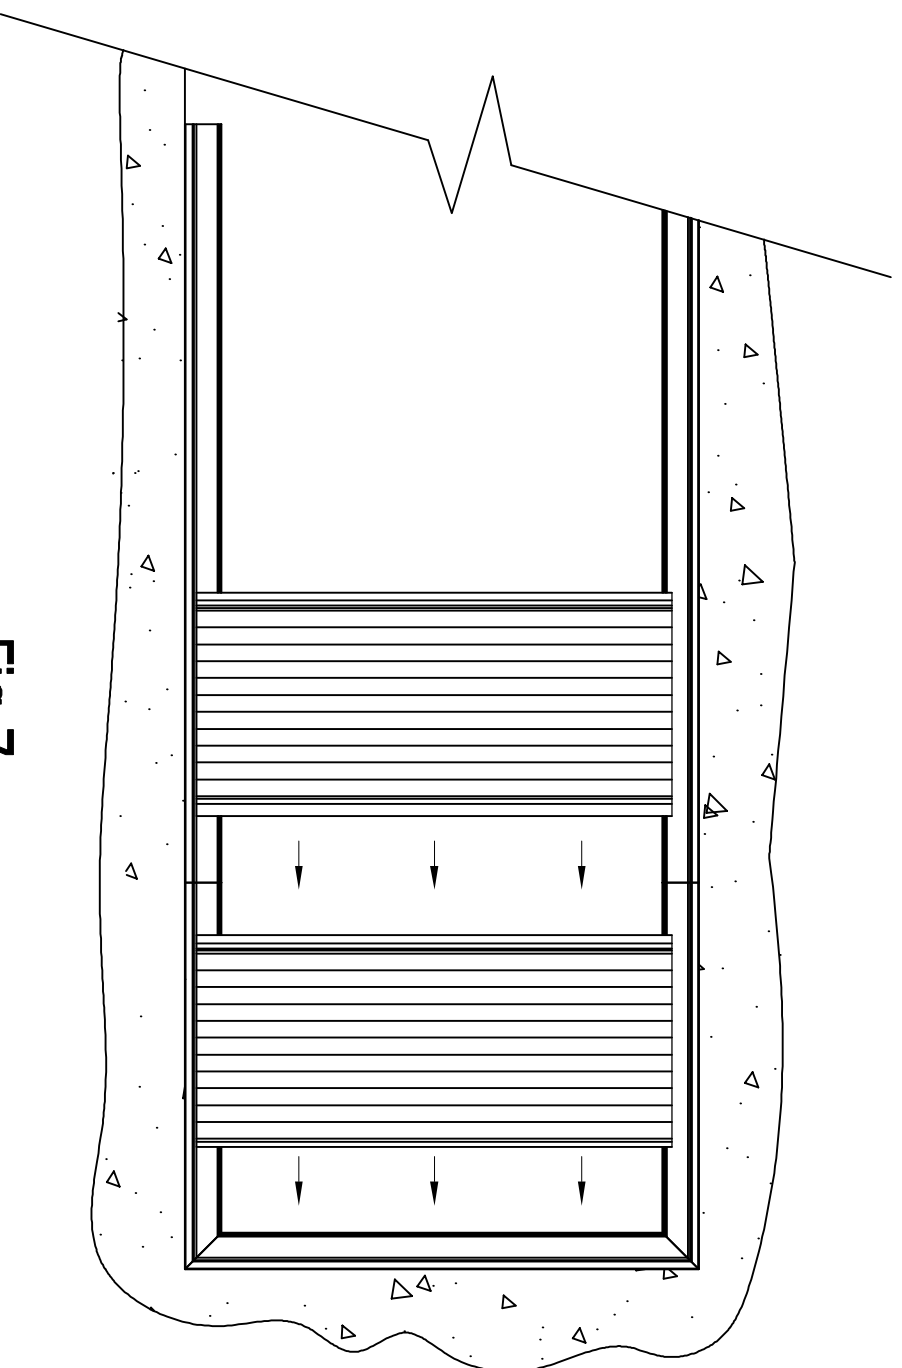

Fig 7
- 3.) Slide the starter panel into the framing to within 1/4" of the jamb glazing seat. See Fig 7 below and Detail "C" on Page 7.
- 4.) Install the next full panel by snapping the tongue into the starter panel. See Fig 7 below and Detail "D" on Page 7.